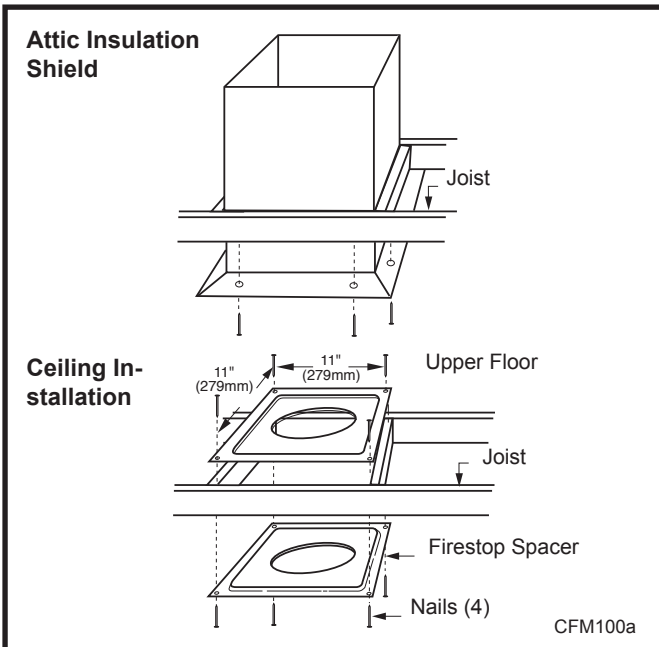

Fig. 35 Place firestop spacer(s) and secure.
6. Place firestop(s) #7DVFS or Attic Insulation Shield #7DVAIS into position and secure. (Fig. 35)